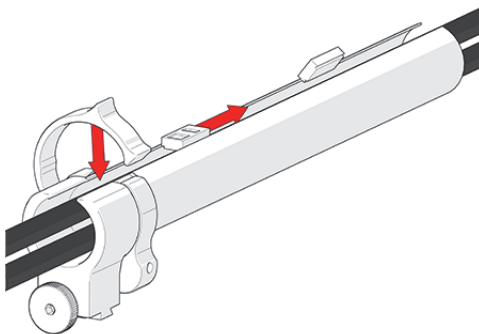

Figure 3-53 Zip up to close
2. As you place the cable in the tube, zip the tube closed and close the zipper tube cable clip (see Figure 3-53 on page 69).